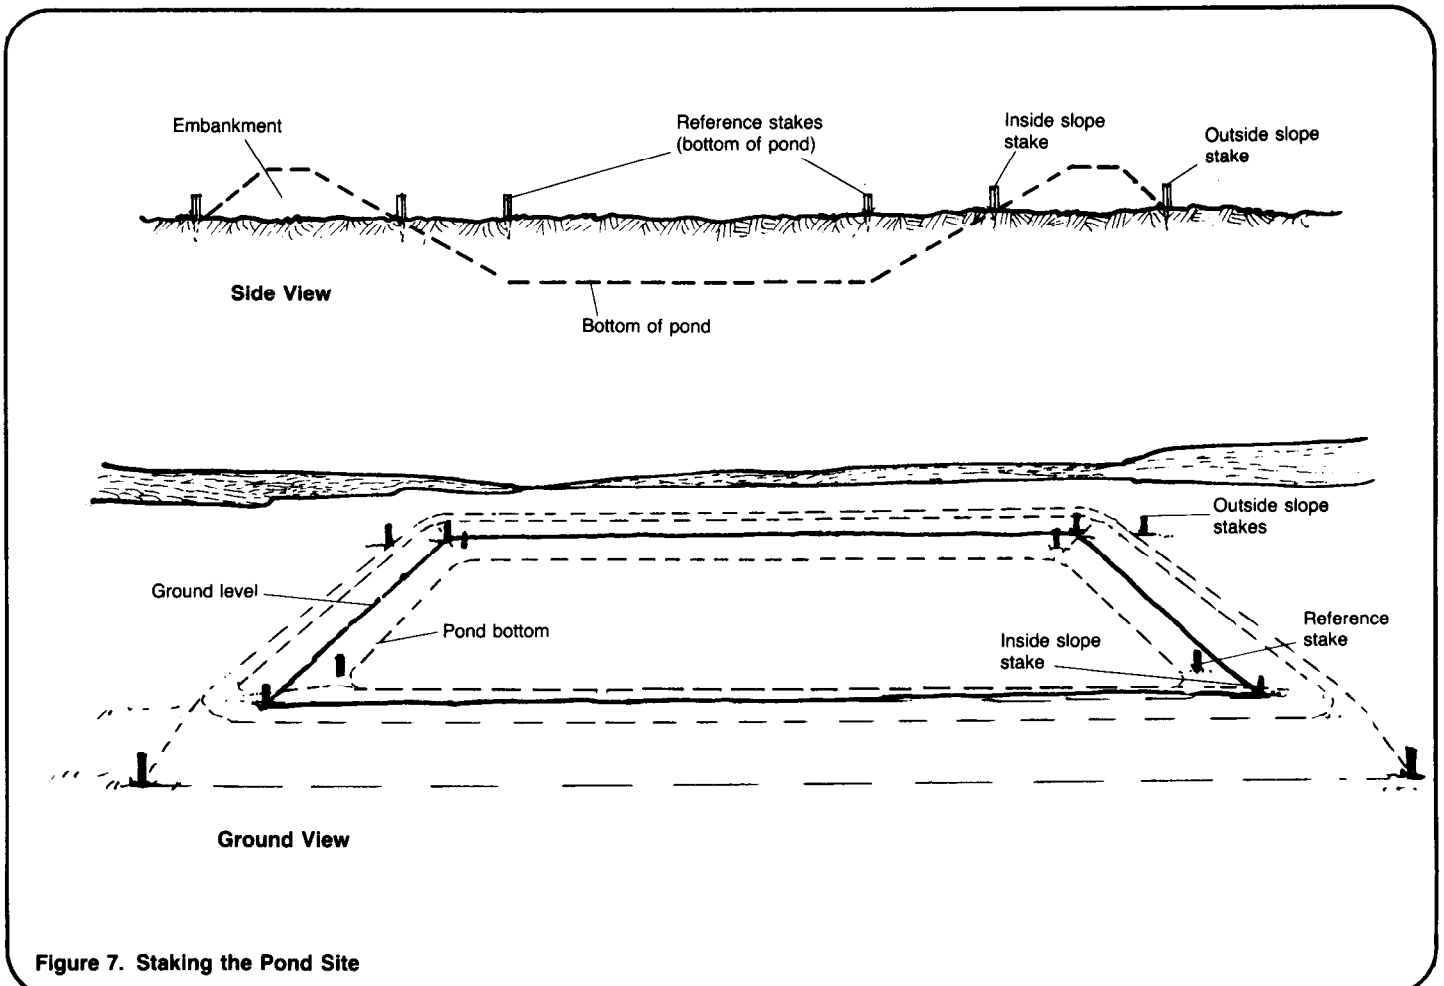

Figure 7. Staking the Pond Site
2. Measuring the distance and elevation from the reference stakes, set slope stakes indicating the points at which to begin building the embankment and excavating the pond. See Figure 7.